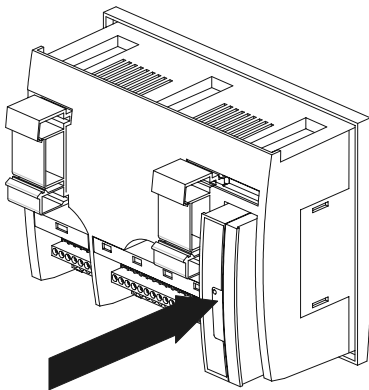

Fig. 16. Inserting application module
1. Plug in the application module (Fig. 16).